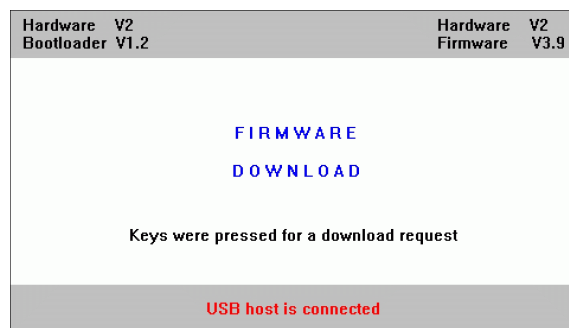

Fig. II.66 Software update (firmware update)
- ▶ **Simultaneously** press and hold the C key and the ENTER key on the ND **while switching the ND on**. The ND displays the currently installed hardware and firmware versions and is now ready for a software download (firmware download), see Fig. II.66.